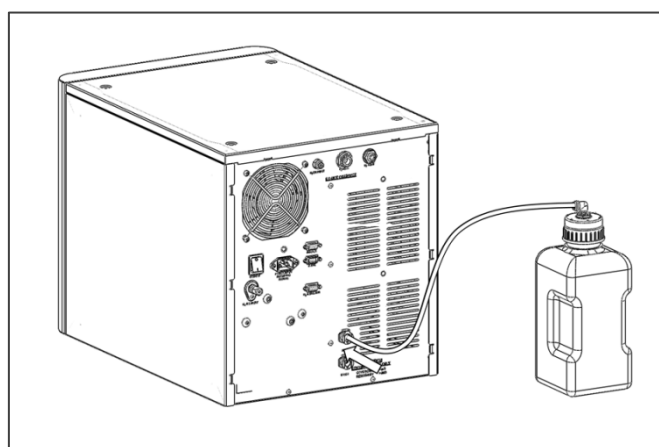

Figure 2. Automatic Water Filling System
The Precision Hydrogen Trace generator uses an automatic water filling system, whereby sensors in the unit's internal water tanks detect when the water level reaches a minimum. The tank then refills using a rear connection to an external deionised (DI) water supply. The unit should be connected to the DI water supply as shown below (Figure 2.). Using the length of Tygon® tubing and the hose barb fitting from the fittings kit, the barb should be attached to the tubing. One end should then be connected to the water supply and the other to the Fill port at the rear of the Precision Hydrogen Trace generator.